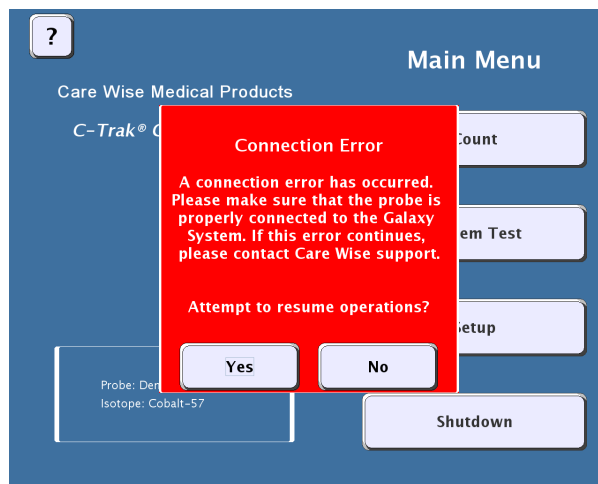

Figure 23 – Connection Error Message
**Connection Error** – [Figure 23] A Connection Error will appear if the probe or cable is disconnected from the analyzer. Reconnect the probe and select YES to continue.